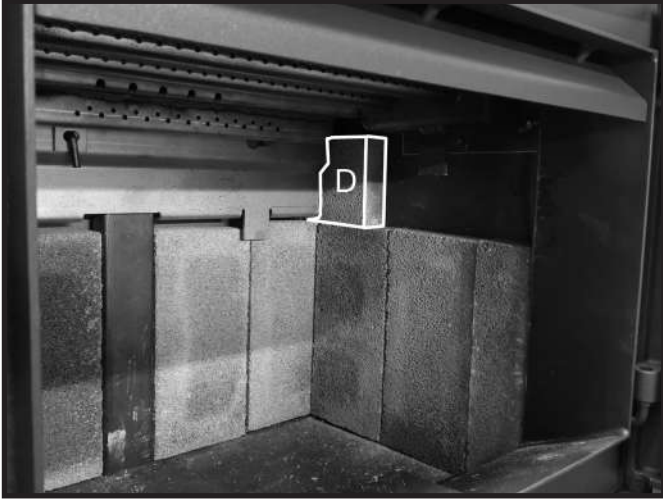

Figure 16: Small side wall firebrick in position.
4. Place a "D" firebrick on top of the previously placed "A" firebricks and slide this firebrick back toward the rear wall making sure that this firebrick tucks in behind the brick rail (Figure 16).